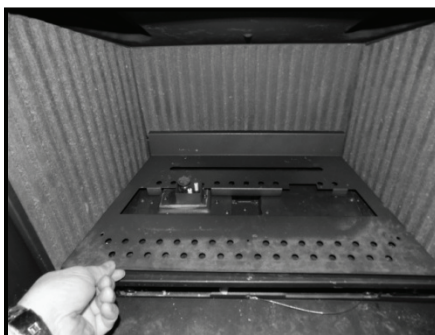

Figure 46
3. Remove two screws from the burner plate (Fig. 46) and remove.